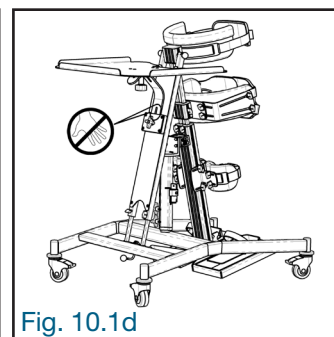

Fig. 10.1d
- When adjusting the table vertically, DO NOT place fingers and hands between the groove of the table support (A) and the slide (B) of the stabilizer platform (Fig. 10.1d).